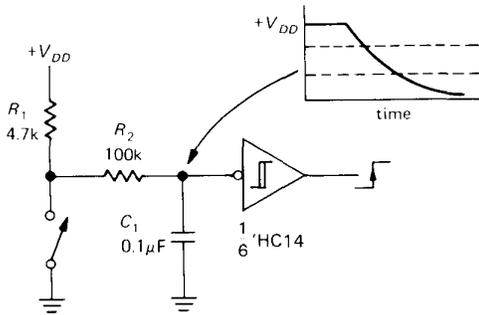

Figure 9.9. Switch debouncer: RC plus Schmitt trigger.
The TTL input threshold is typically around +1.3 volts, although the specifications only guarantee that it is between +0.8 and +2.0 volts. TTL gates with Schmitt-trigger inputs are available ('13, '14, '132), with  $\pm 0.4$  volt hysteresis; they are indicated by a hysteresis symbol within the gate outline (e.g., Fig. 9.9).  $V_{\text{supply}}$  (usually called  $V_{CC}$ ) is +5.0 volts  $\pm 5\%$ .
3. Use an *RC* slowdown network to drive a CMOS Schmitt trigger (Fig. 9.9). The low-pass filter  $R_2C_1$  smooths the bouncy waveform so that the Schmitt-trigger gate